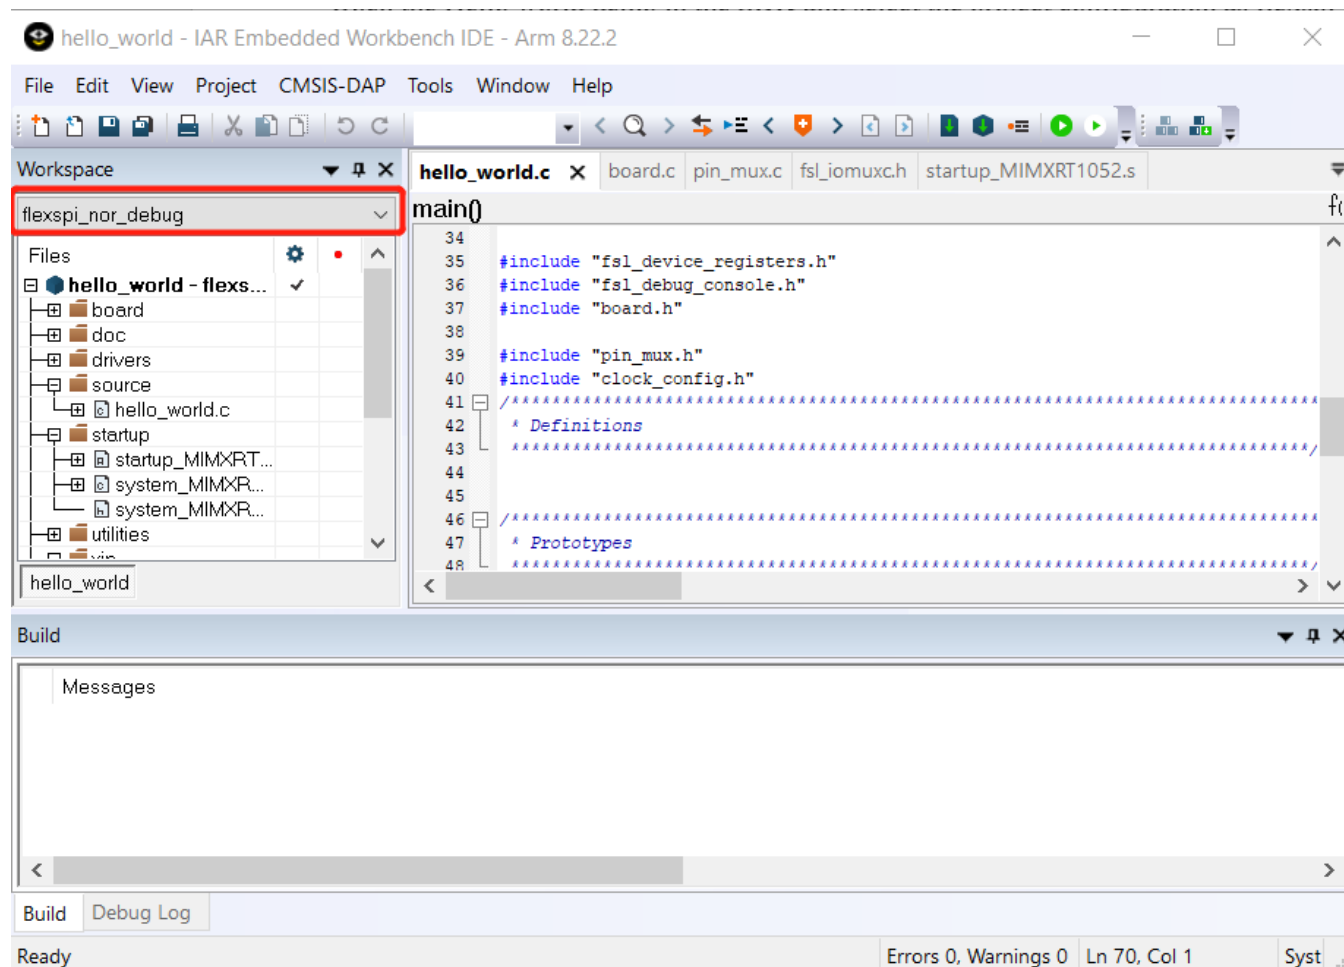
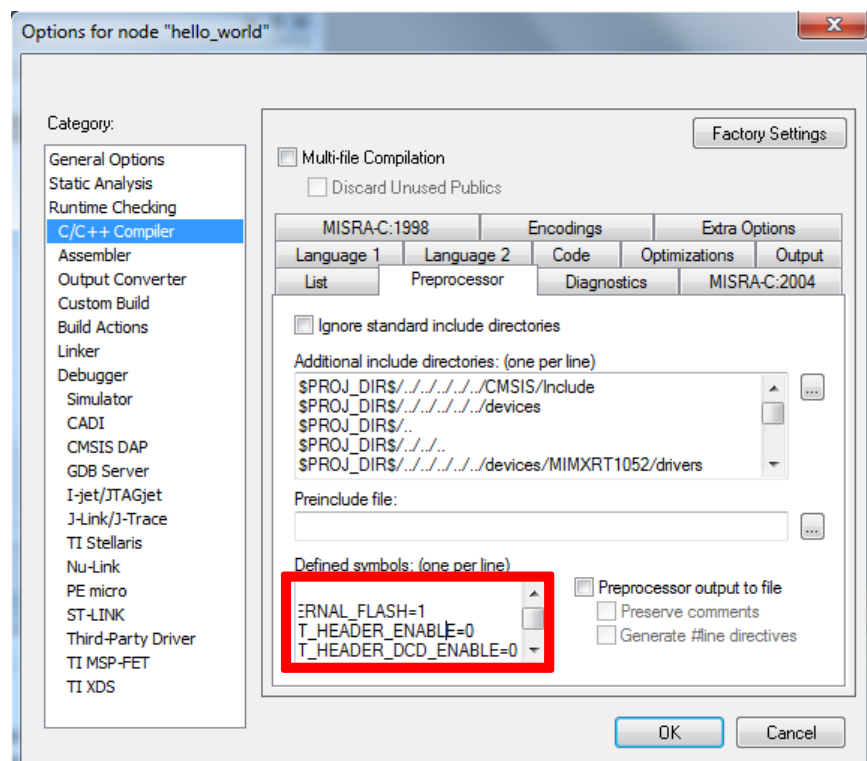

Figure 11. Select the project configuration as flexspi_nor_debug
Figure 12. Defined Symbols for hello_world
- Open the Hello world demo in the SDK and select the project configuration as flexspi_nor_debug Figure 11 and make sure the settings likes Figure 12.